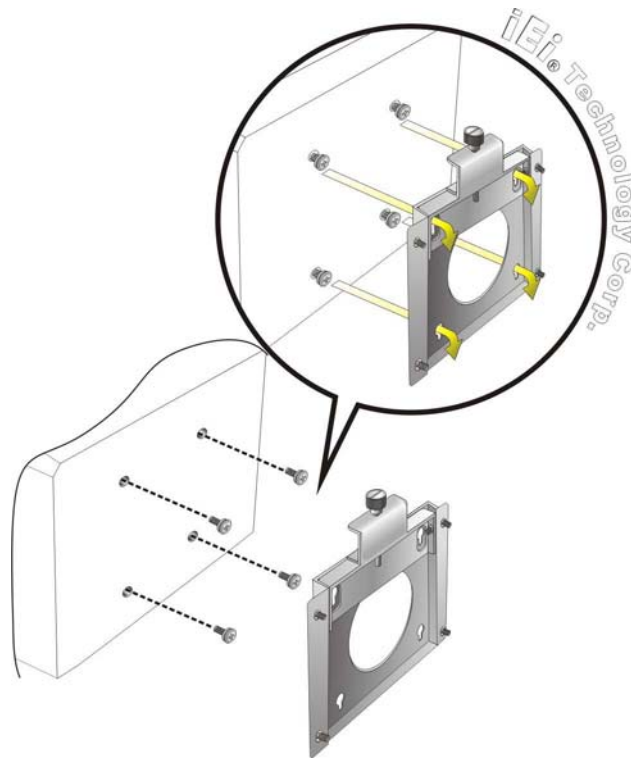

Figure 3-22: Chassis Support Screws
- Step 6:** Insert the four monitor mounting screws provided in the wall mounting kit into the four screw holes on the rear panel of the flat panel PC and tighten until the screw shank is secured against the rear panel (Figure 3-22).
- Step 8:** Carefully insert the screws through the holes and gently pull the monitor downwards until the monitor rests securely in the slotted holes (Figure 3-22). Ensure that all four of the mounting screws fit snugly into their respective slotted holes.